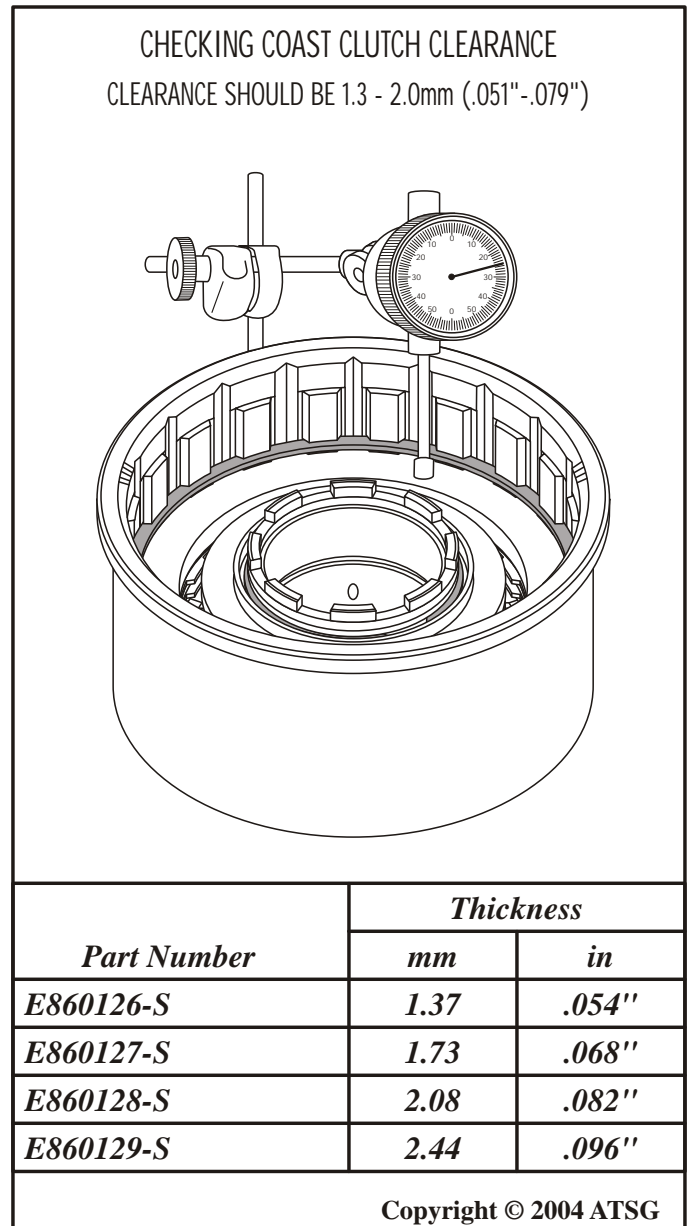

Figure 72
17. Install dial indicator on top of backing plate, as shown in Figure 72, and check the coast clutch clearance. Should be 1.3-2.0mm (.051"-.079"), as shown in Figure 72.
18. Change the selective backing plate snap ring as necessary, using the chart in Figure 72, to get the proper clutch clearance.